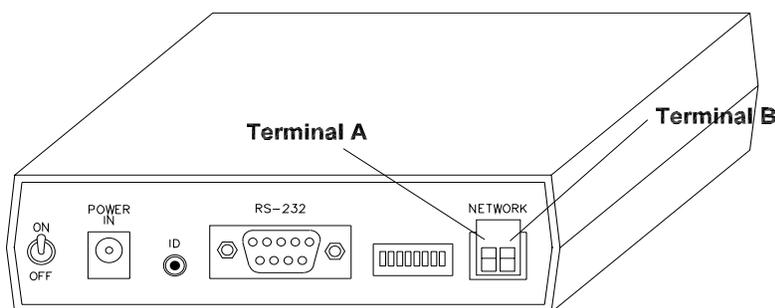

Figure 2.1 Serial Link Network Terminator Connector
The Serial Link, G-SITE Application is connected to the Prolink Network through the two terminal network connectors located on the back of the Serial Link enclosure (refer to figure 2.1). The Serial Link can also function as a network termination for the Prolink Network.
Step 4: Connect the two network cable conductors to the A and B terminals on the Serial Link. Polarity is important. See figure 2.1